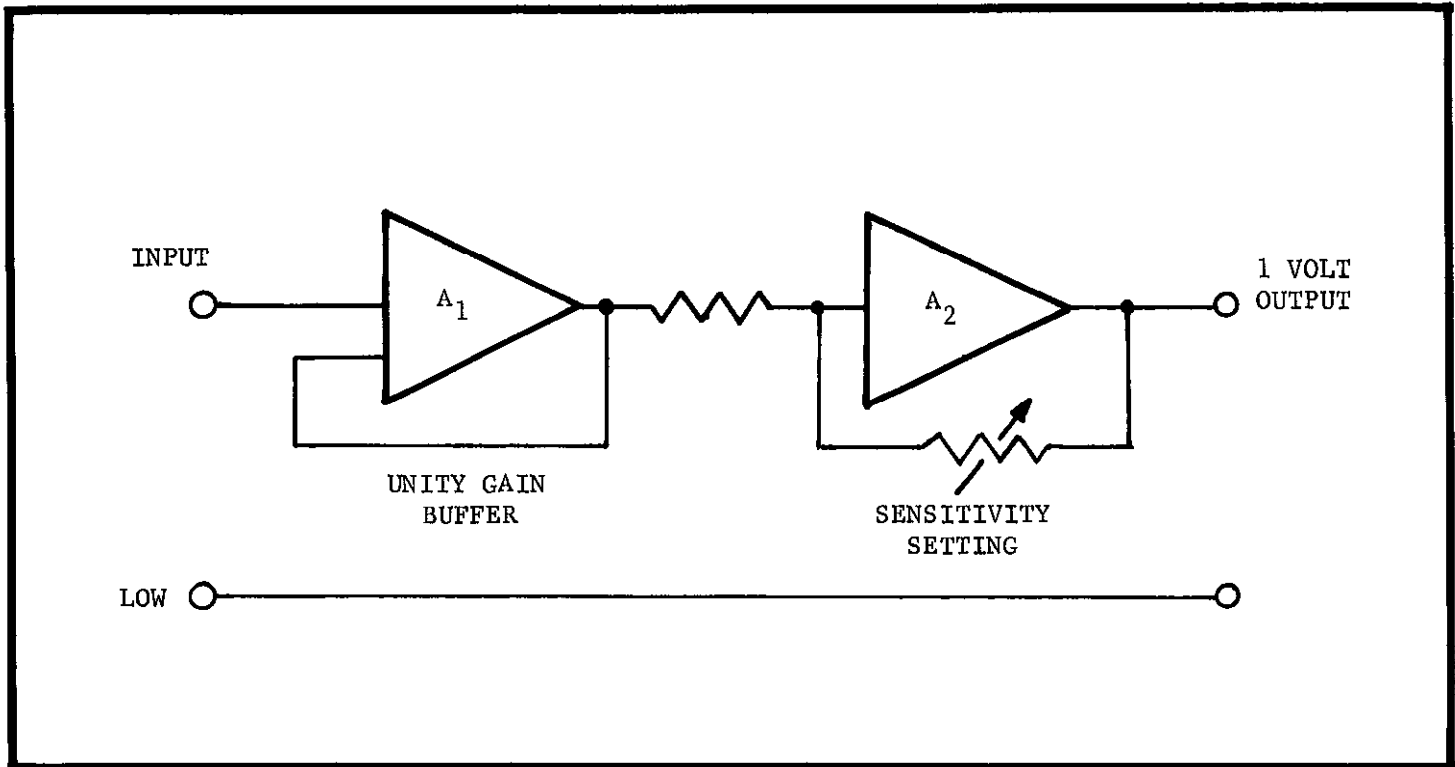

FIGURE 24. Simplified Diagram of Amplifier Section.
a. Input Amplifier. This amplifier A_1 is shown in simplified form in Figure 24. (Refer to schematic 25764E). The input signal applied between HI and LO (J120) is amplified by the input MOS-FET amplifier composed of transistors Q101A and Q101B. Transistors Q102A and Q102B are used for over-voltage protection (base-emitter connected). Integrated circuit QA101 provides high gain (approx. 100,000) for the electrometer amplifier section. Potentiometer R123 is an internal zero adjustment used for calibration purposes. Potentiometer R119 is a front panel ZERO control with adjustment capability of approximately 3 mV. Transistors Q105 and Q106 are complementary output stages which provide a maximum of ± 200 volts at the "X1" terminal (J118). The electrometer amplifier is connected in a unity-gain configuration. Input resistance between HI and LO is greater than 2×10^{14} ohms in "VOLTS" function.
e. Voltage Sensitivity. This amplifier A_2 is shown in Figure 24. (Refer to schematic 25776D). The second stage variable-gain amplifier is composed of a FET stage (Q301A, Q301B) and an integrated circuit QA301. Gain is determined by resistors RN301 (A to F) where: